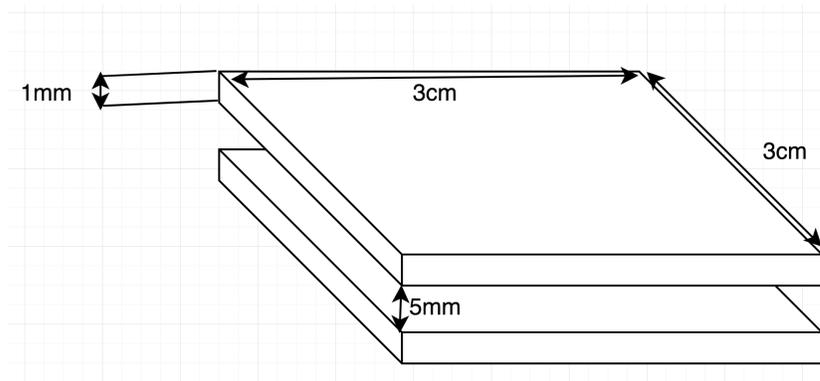

Figure 3: 3D schematic of a parallel plate capacitor in air.
- Using ANSYS maxwell 3D, construct the geometry seen in figure 3. The top and bottom are aluminum while the space between is air. The top plate will be at 5V while the bottom in 0V.